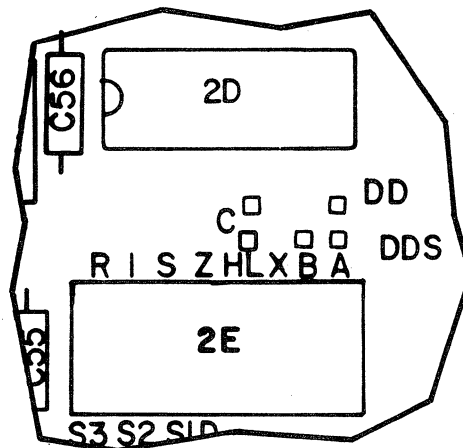

FIGURE 3-5. DRIVE SELECT OPTION
See Figure 3-5.
1. Cut away shunt Z at 2E between pins 4 and 13. See Figure 3-5.